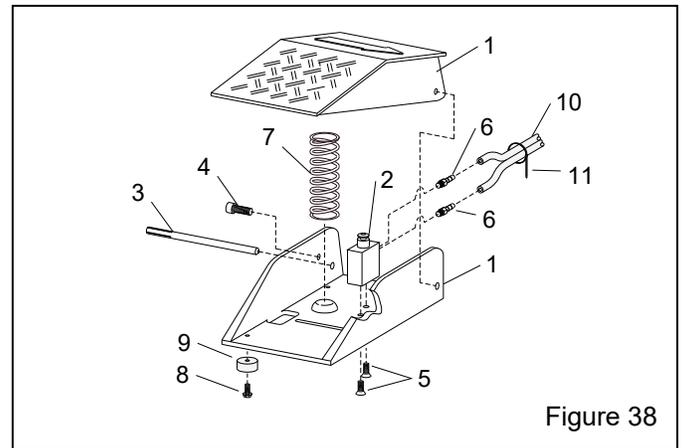

Figure 38
**9.7 Foot-Pedal Assembly – Figure 38**